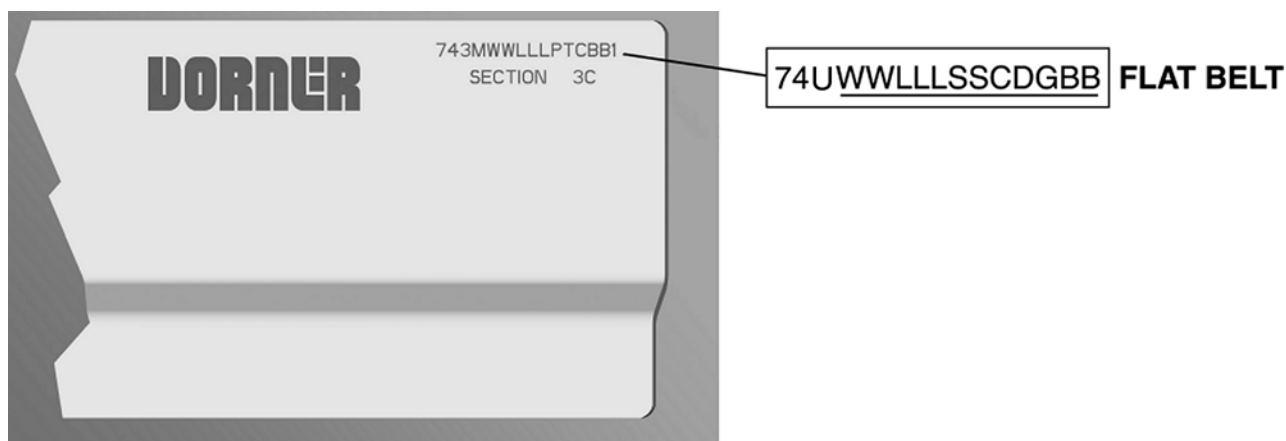

Figure 87
Refer to the model number on the conveyor frame (**Figure 87**). From the model number, determine conveyor width (WW), length (LLL), drive stand location (S), idler stand location (S), cleaning options (C), drive/pulley type (D), profile (G) and belt material (BB).